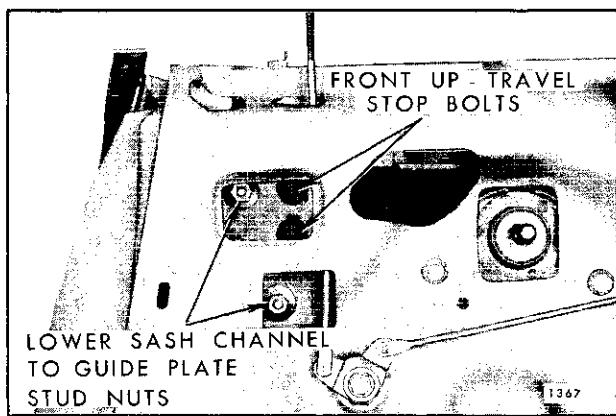

Fig. 6-97—Rear Door Window Removal —
4. While supporting glass by pressing it rearward into ventilator division channel, remove lower sash channel to guide plate attaching nuts (Fig. 6-97).